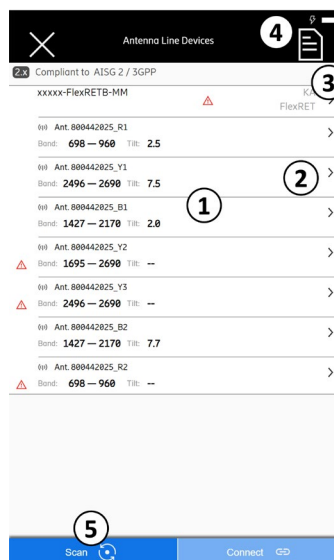

Fig. 55: Devices: Configuring the individual FlexRET subunits
1. Tap ① in Fig. 55 section 9.4 to show the FlexRET properties. The following page is shown: